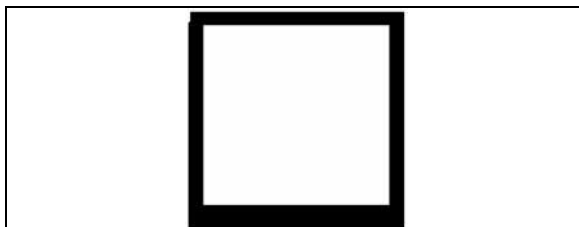

FIGURE 45 : SIDE PANEL INSTALLATION – SIKA 206 G+P APPLICATION
- Apply Sika 206 G+P on side panel as shown in figure 45;